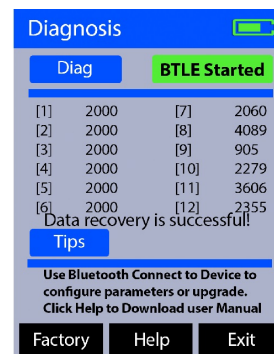

Figure 21.
7. The message “Data recovery is successful!” will appear on the display (Figure 21).